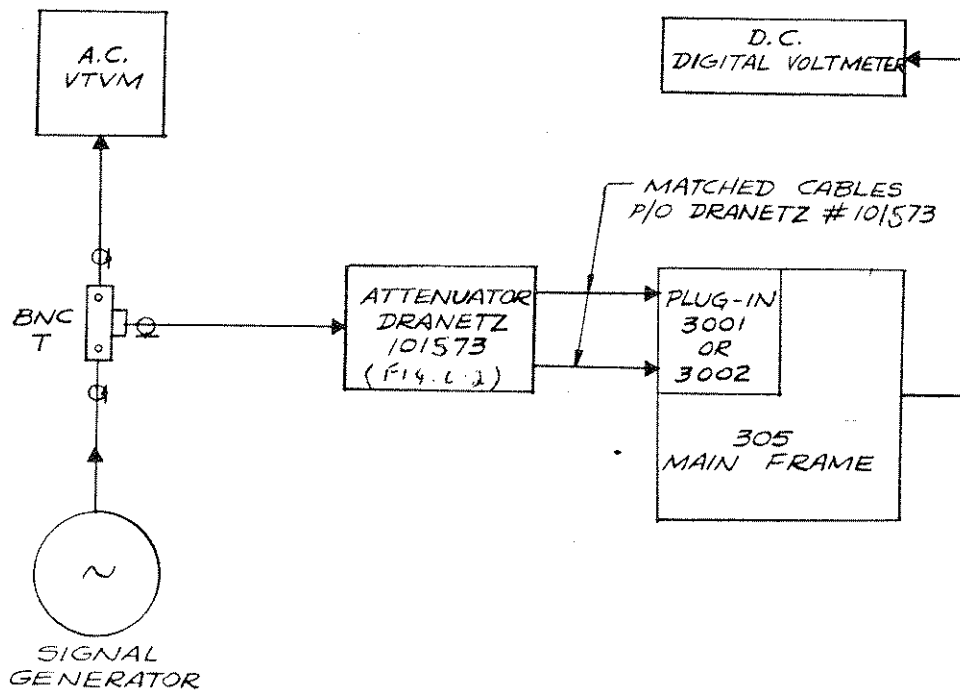

Figure 6-1. Test Circuit
- a. Connect the equipment as shown in figure 6-1.